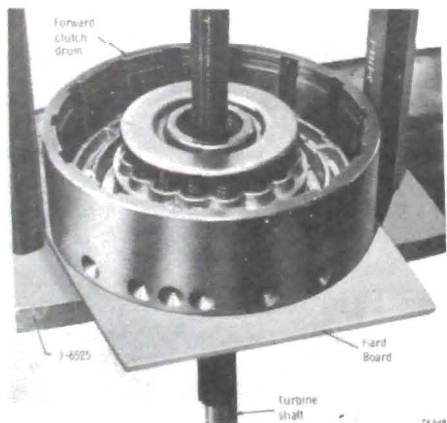

Figure 76-648
5. If necessary remove turbine shaft. See Figure 76-648.
**NOTE:** If turbine shaft was not removed, install retainer as shown in Figure 76-648.